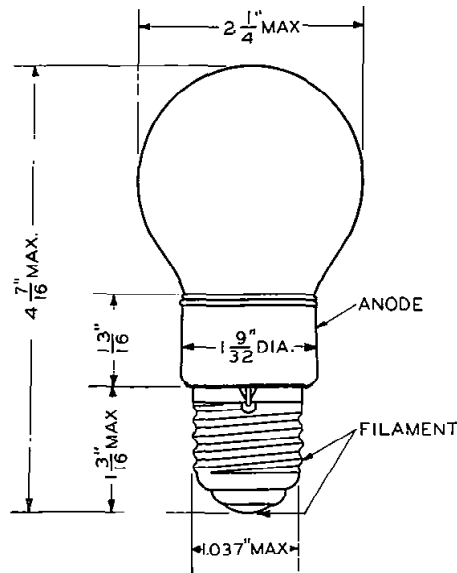

FIG. 1
**Dimensions**—The dimensions and outline diagram are given in Figure 1. The overall dimensions are:
**Mounting**—This tube employs a 3 connection, skirted medium screw base. Overall dimensions are shown in Figure 1.
**Dimensions—**Dimensions, outline diagrams of the tube and base, and the arrangement of the electrode connections to the base terminals are shown in Figures 1 and 2.